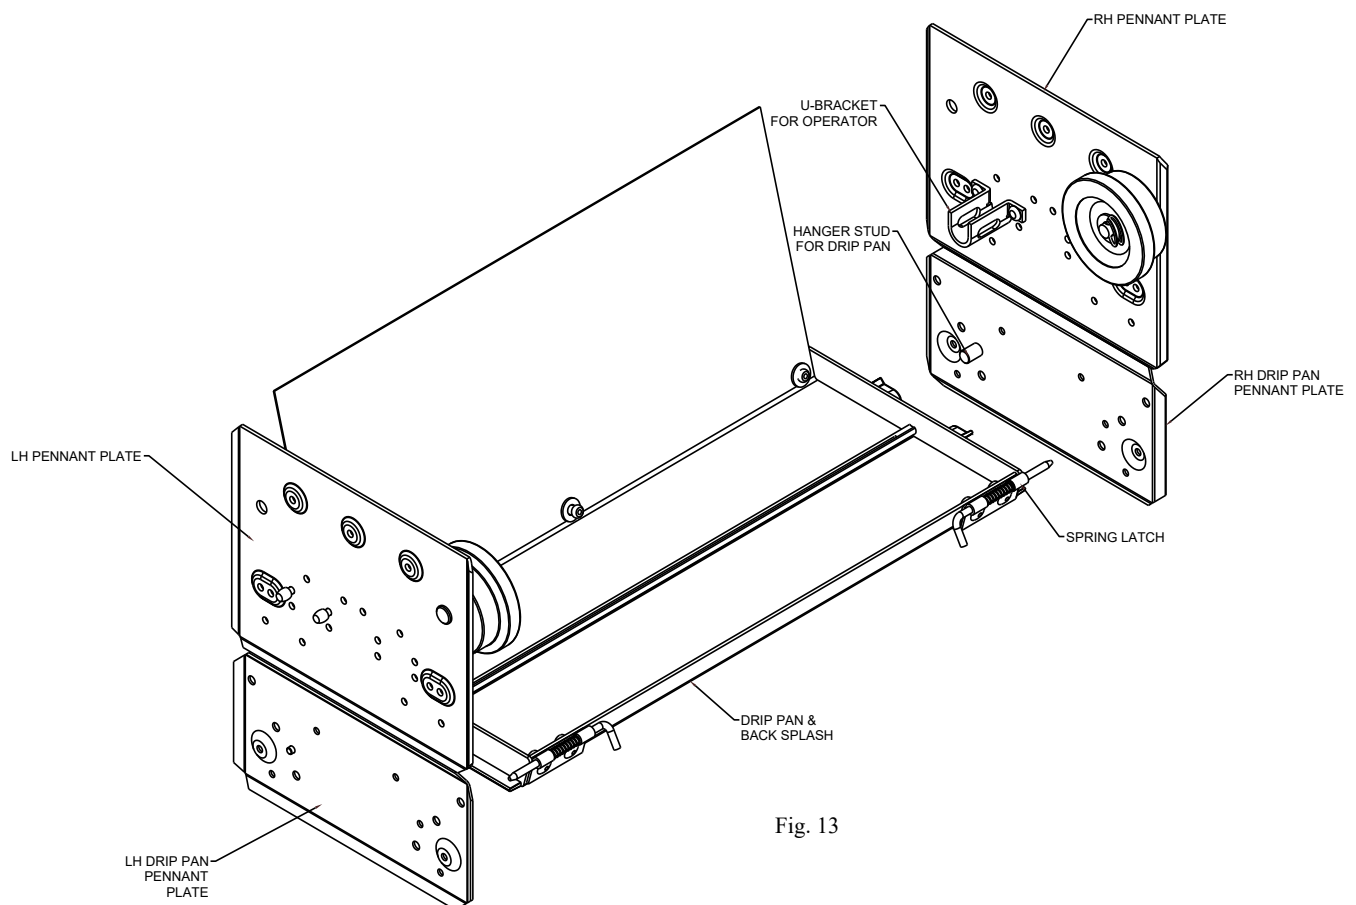

Fig. 13
- Mount drip pan pennant plates as shown per instruction #4. First, determine what size pennant plate you have by referencing the label on the back of the plate. If the pennant plate is an A, B, or C; place the drip pan pennant plate flush up against the existing pennant plate as shown in Fig. 13. Making sure the hanger stud is placed on the same side of the U-Bracket as shown. For D size pennant plates the top of the drip pan plates will need to be mounted 3" below the pennant plate.